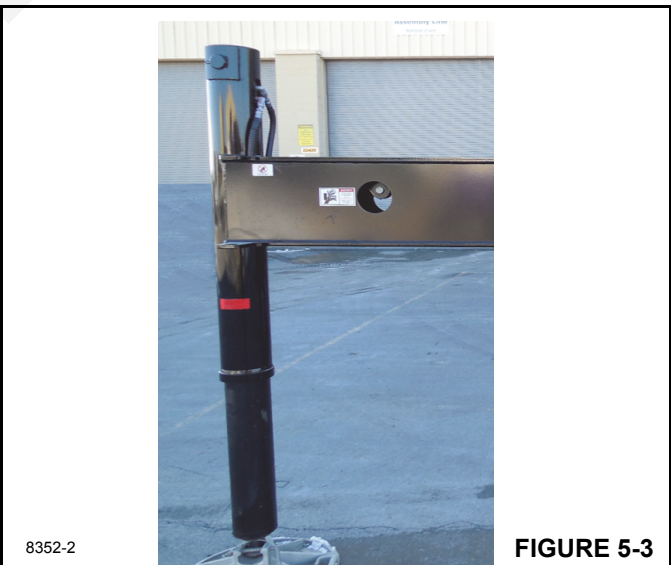

FIGURE 5-3
1. Fully extend and set the outriggers. Refer to (Figure 5-3.)